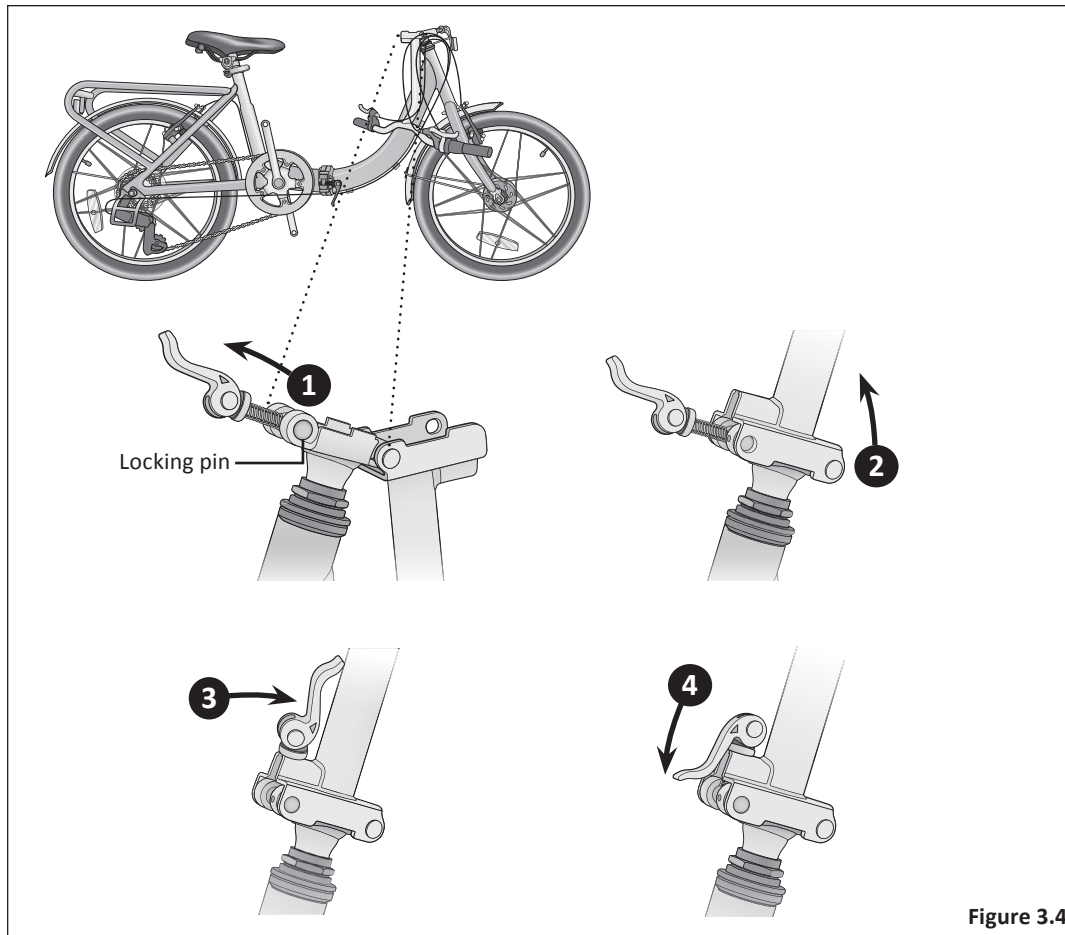

Figure 3.4
- 1 Move the quick-release lever as shown. The locking pin should be completely retracted. **Figure 3.4**